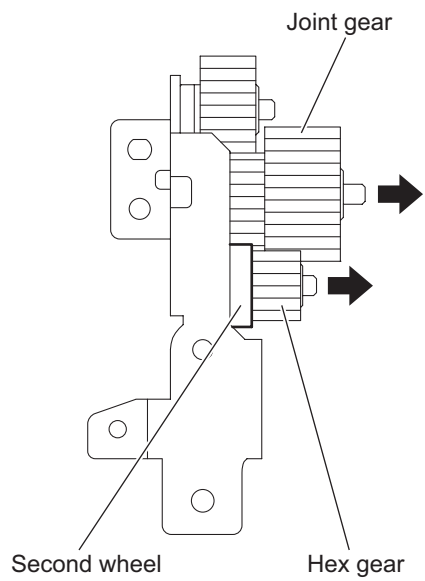

Fig.20
- (7) Pull out the joint gear in the direction of the arrow. (See Fig.20.)
- (8) Pull out the hex gear and second wheel together in the direction of the arrow. (See Fig.20.)